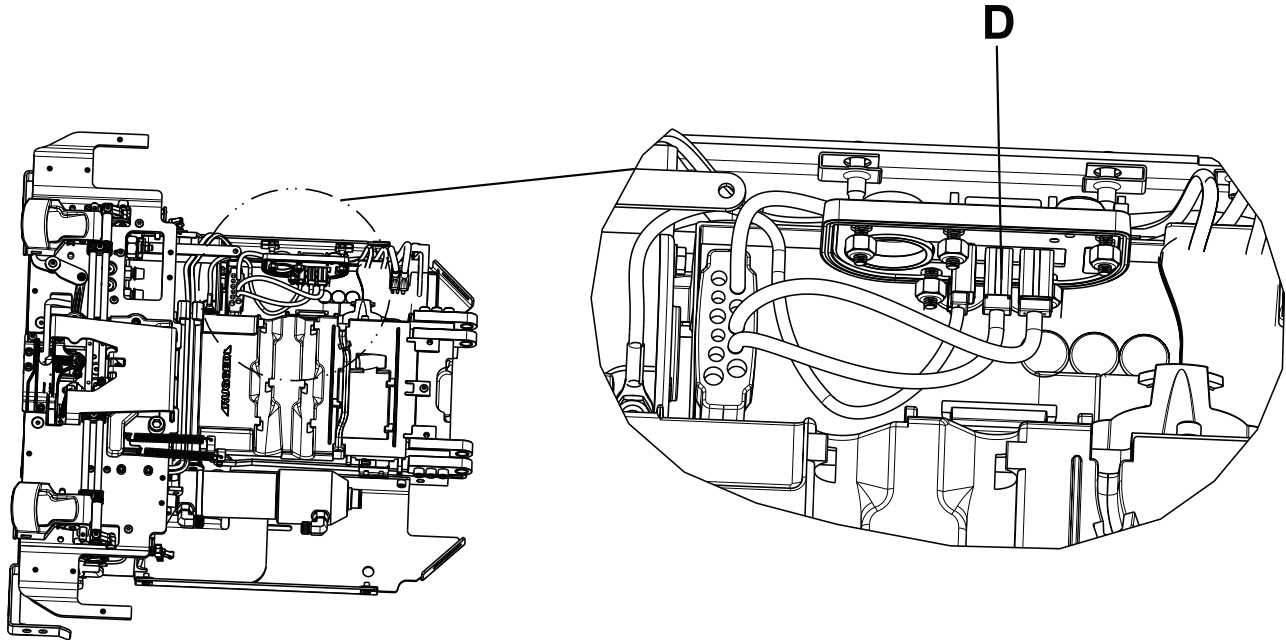

Figure 9: On/Off switch cable locations
- Unplug the cables from the master On/Off switch (D) and remove the manual release button assembly (Figure 9 on page 44).